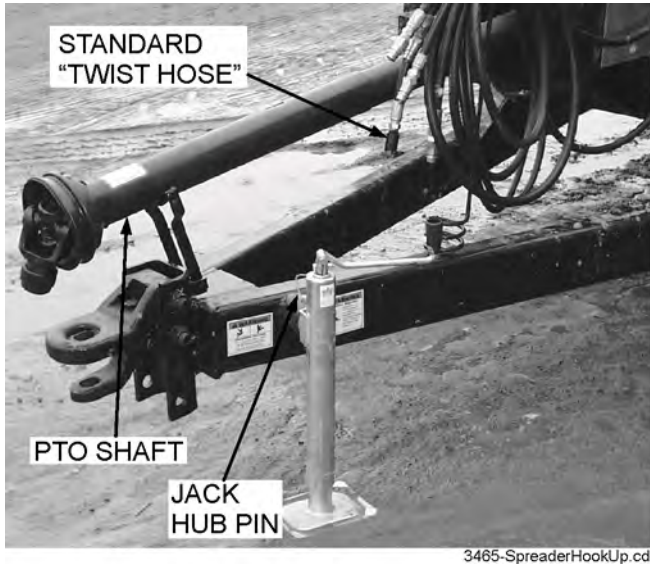

FIGURE 8. SPREADER HOOK UP
2. Raise the jack off the ground. Remove the jack hub pin and rotate the jack to horizontal storage position and secure with the pin, Figure 8.
5. For standard flow control systems, use the “twist” hose to regulate the apron speed, Figure 8.